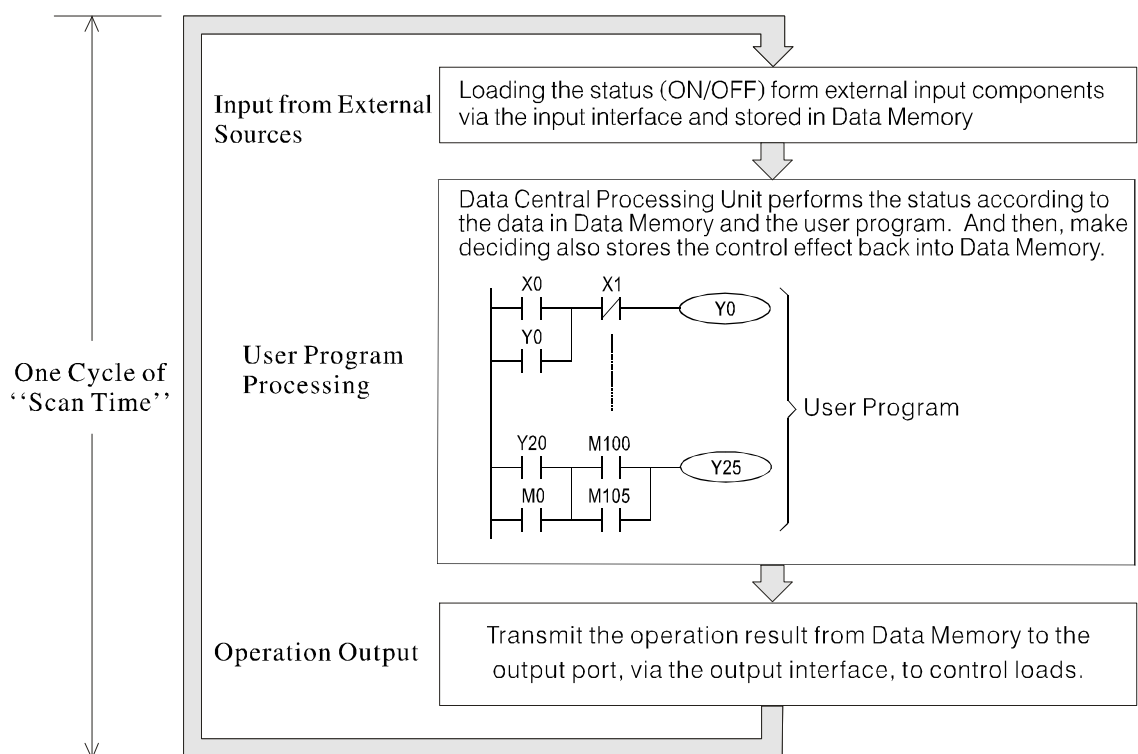

Fig. 1-2
The PLC achieves to simulation the conventional relay switchboard by using the Microcomputer technology. The Microcomputer scans all I/O status and user program to calculate the control results, and the outcome will follow the user desires. The brief process is shown as in Fig. 1-2. One cycle of "Scan Time" including spend time to handle: (① loading the input status from resources, ② to process the user program, ③ the operation result output.) An important concept about the "Scan Time" is the most significant difference between a PLC and a conventional relay switchboard, and it is a critical concept that we need to understand.